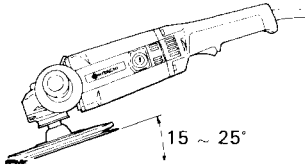

Fig. 3
2. Rather than applying the entire disc surface to the metal surface to be ground, use the sander by inclining it approximately $15^{\circ} \sim 25^{\circ}$ to grind with the disc peripheral portion. (Fig. 3).